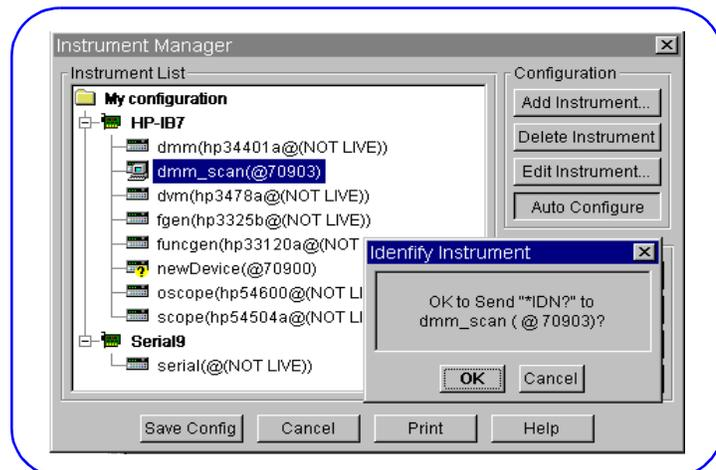

Figure 33. HP VEE Instrument Manager - Auto Configure
- 4 To verify communication with the HP E1411B, highlight the *dmm\_scan (@70903)* line and then click *Auto Configure* to display an \*IDN? message box similar to Figure 33.